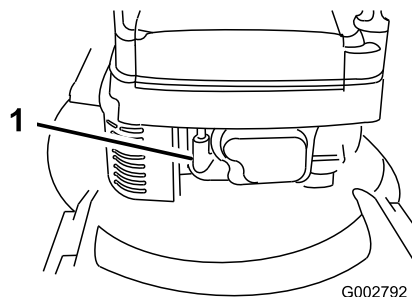

Figure 13
1. Connect the wire to the spark plug (Figure 13).